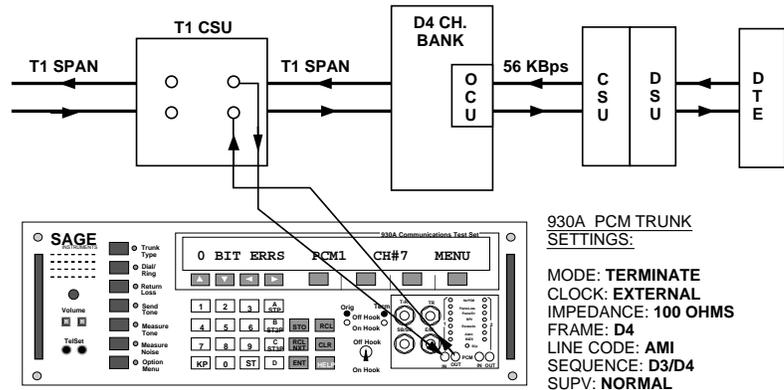

Figure 5-56.1
2. Connect the **930A** test cords for terminated testing as shown in **Figure 5-56.1**.